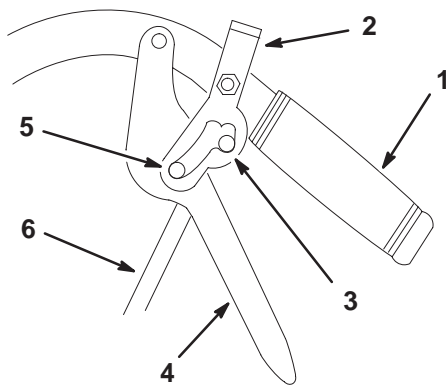

Figure 54
1. Adjust the rod length by releasing the drive lever and removing clevis pin. Rotate the rod in the rod fitting (Fig. 54).
5. Place the hairpin back into clevis pin (Fig. 54).